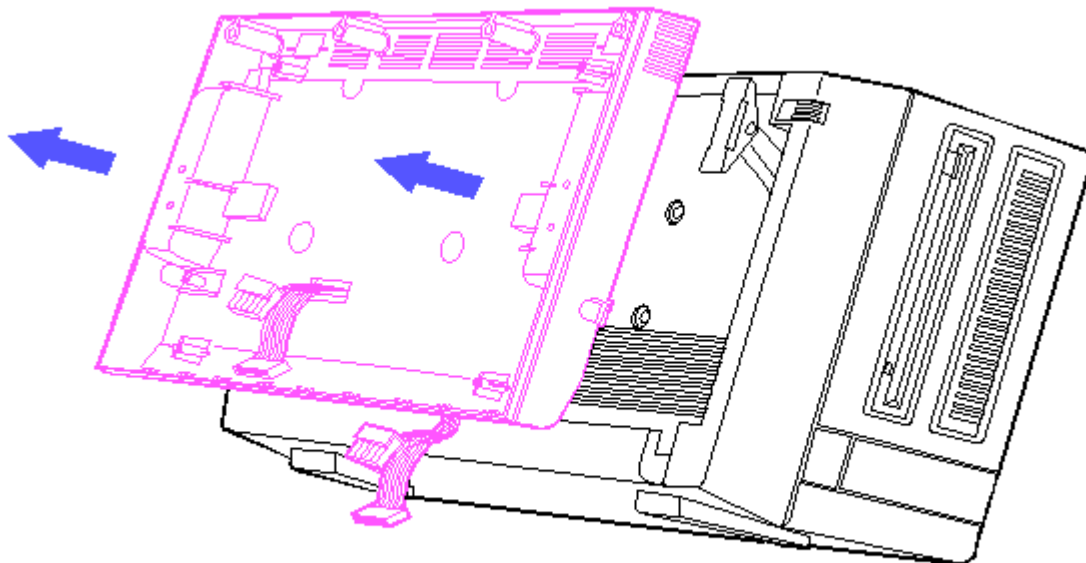

Figure 8-86. Lifting the Display Enclosure Away from the Main Enclosure
9. Lift the display enclosure away from the main enclosure, being careful to guide the display power cable and display data cable through the slot in the display enclosure (Figure 8-86).